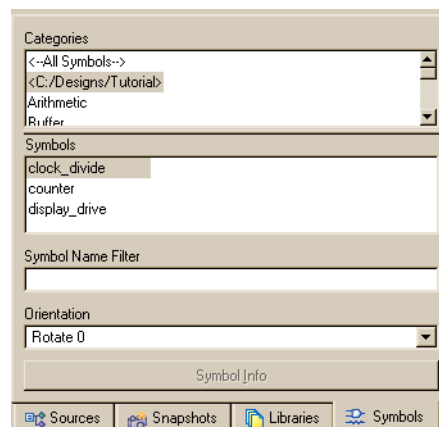

Figure 4-22: Symbols Tab
4. The symbol libraries can be found under the **Symbol** tab on the right hand tab in the **Sources** window. You will see that there is a category showing the path to your project directory. If you click this category, you will see three symbols listed below. These are the three symbols that you have just created, as shown in Figure 4-22.